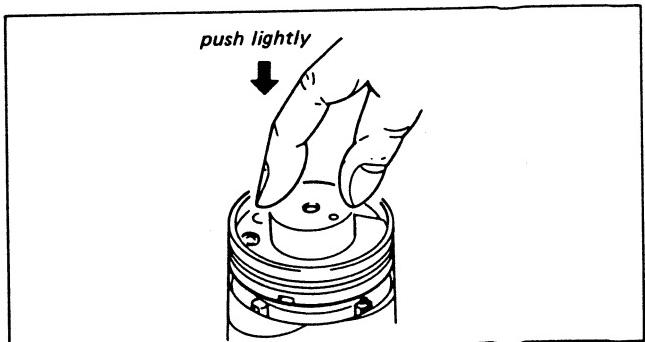

Fig. 3-45.
- 3) Remove jig C and push the rotary upper drum in by hand, gently. (Fig. 3-45) When it is not inserted all the way, tighten the two hexagonal bolt screws ③ alternately to temporarily fix it.
- 4) Insert jig C into the positioning hole D again and make sure it goes in smoothly. If not, loosen the two screws ③ and insert a clock screwdriver into the hole to fix.
- 5) Tighten the two screws ③.